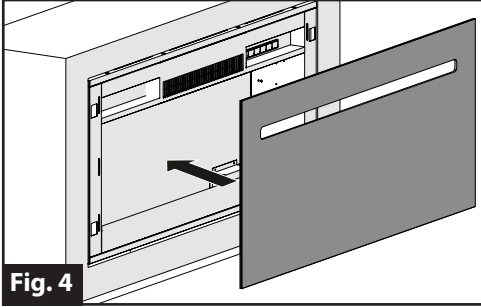

**Fig. 3**
5. Install the fireplace into the cut out area and secure with 4 mounting screws supplied. (Fig. 3)